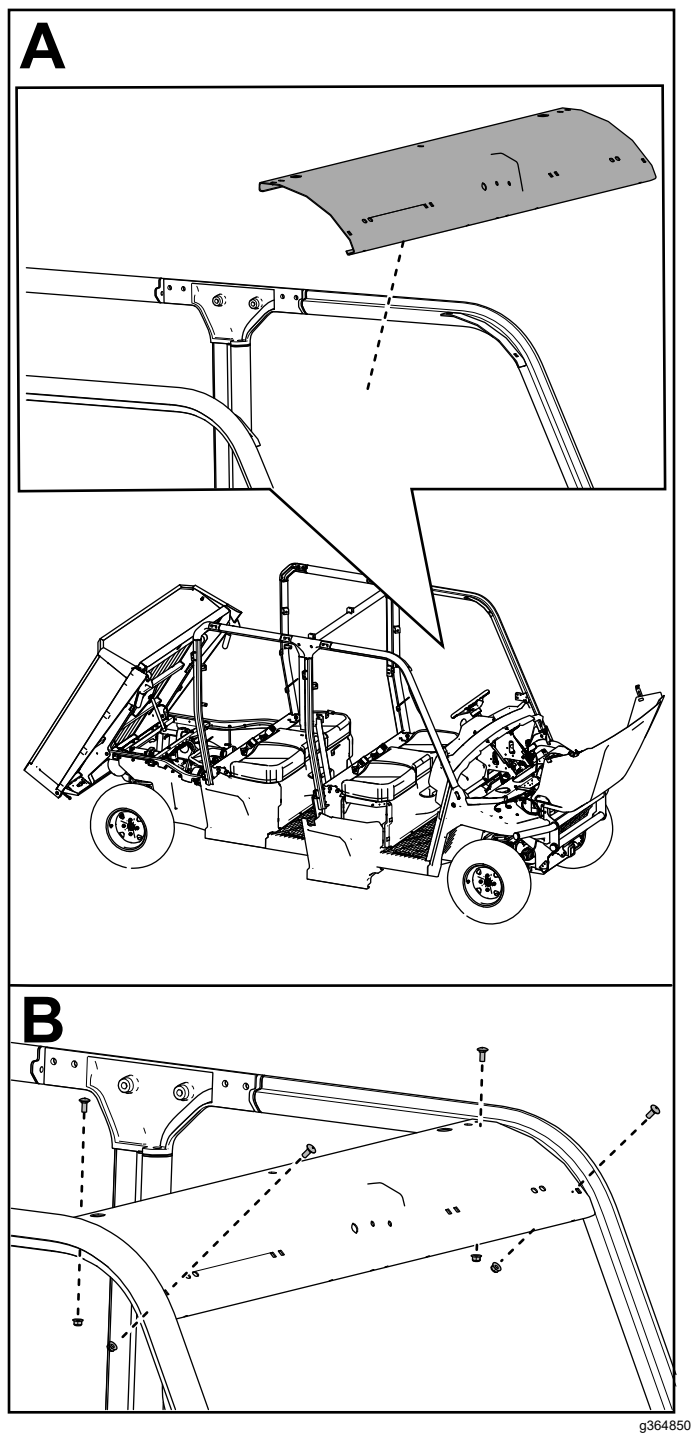

Figure 48
15. Secure the front crosslink to the front roll bar assemblies using 4 carriage bolts (5/16 x 3/4 inch) and 4 locknuts (5/16 inch) as shown in Figure 48.